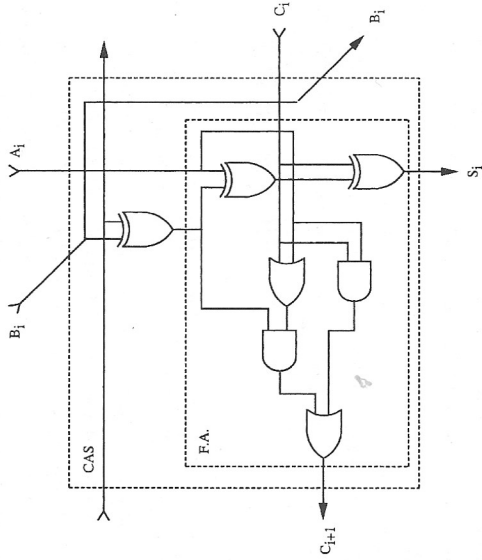

Figure P1.1
- 1.1 An ADD/SUBTRACT logic circuit is shown in Fig. P1.1. It performs the ADD operation for $P = 0$ and SUBTRACT for $P = 1$.
shown in Fig. P1.1. It performs the